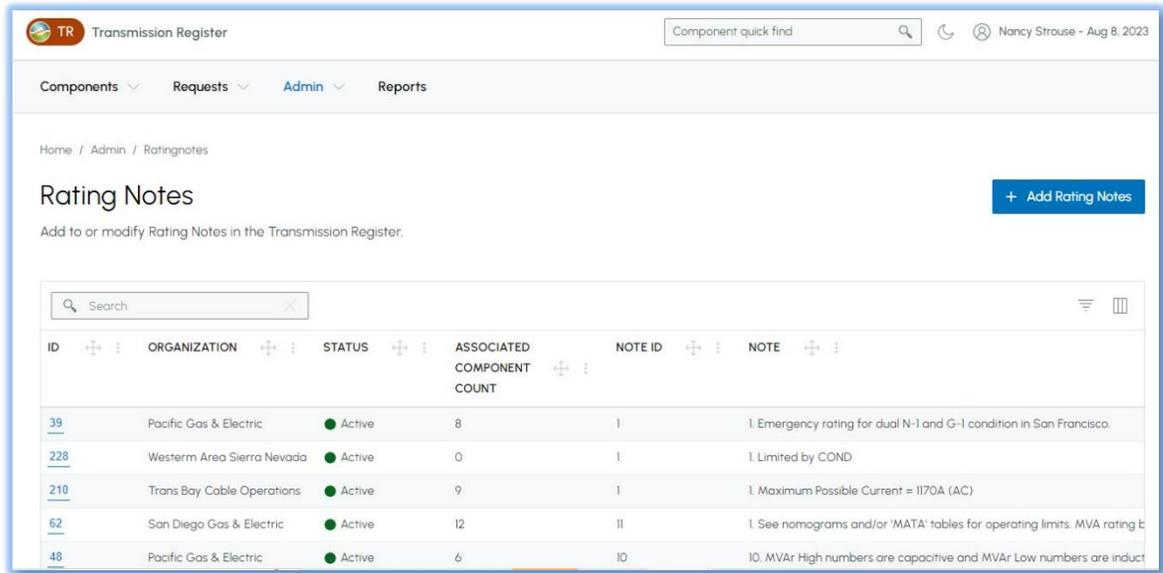

Figure 24 Rating Notes Screen
- 1) Click on the Rating Notes hyperlink and the screen in Figure 24 loads. Click on the ID hyperlink to view details of a specific rating note.